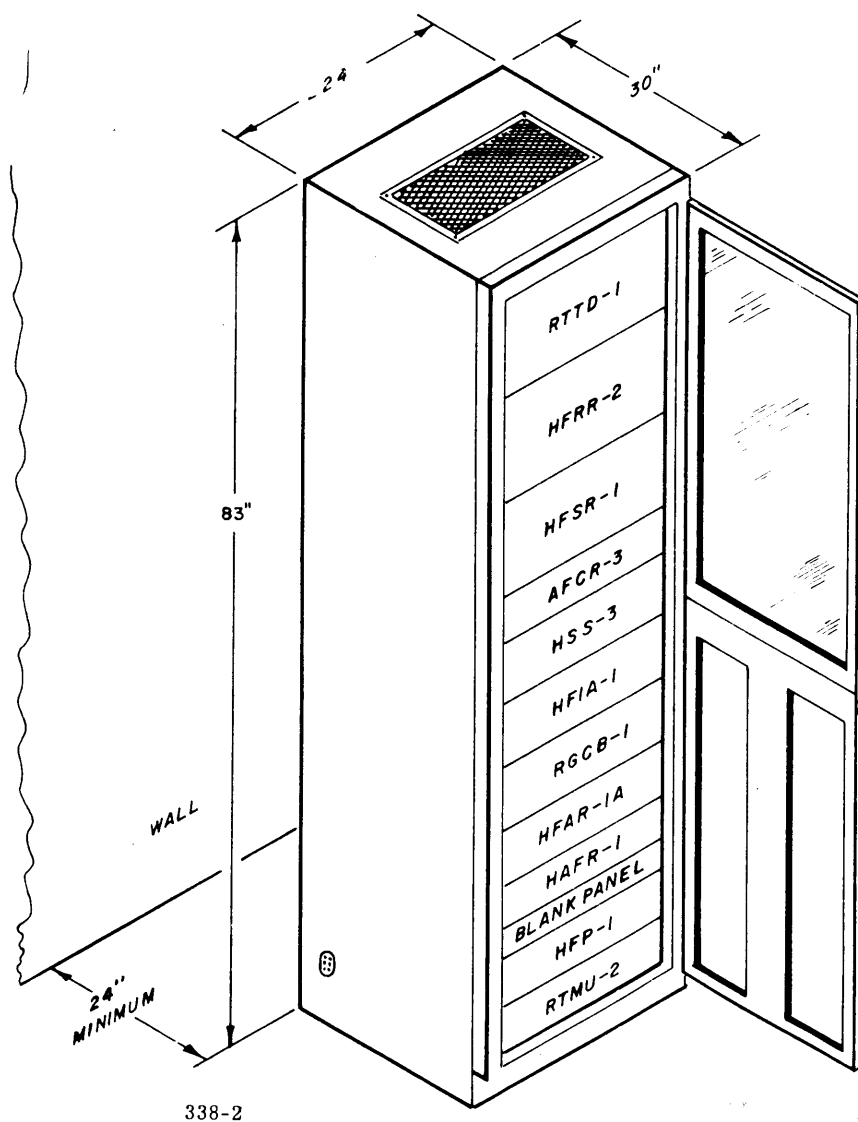

Figure 2-1. Modular Unit Location and Overall Dimensions.
Figures 2-1, 2-2, 2-3, and 2-4 show mounting dimensions, clearances and particulars involving the location and installation of the DDR rack. For mobile operation, the rack may be bolted to the floor of mounting base using holes shown in figure 2-3. For vibration problems, a shock-mounting kit is available on order. Locate the receiver in a room or compartment with adequate ventilation. The DDR has its own cooling blowers with a filtered air intake and exhaust as shown in figure 2-4.
a. INSTALLATION OF MODULAR UNITS. - Refer to figure 2-1 for information regarding location of all modular units. All major units are slide mounted on tilt-lock drawer slides. To install any slide-mounted unit in its compartment, refer to figure 2-5 and proceed as follows:
(1) Untape or unstrap cable assemblies and all other components secured to the rack frame for shipment.